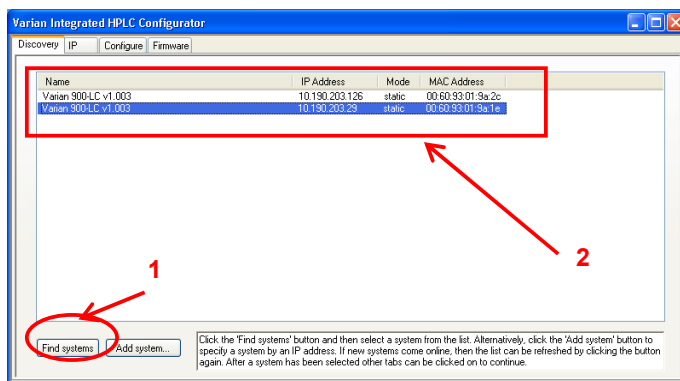

Figure 22: Discovery page of the Service Configurator
3. Once the system has been selected you will be able to choose the *Configure Tab* (3). Select the *Update an existing system option* (4), and then select next (5) as shown in Figure 22.